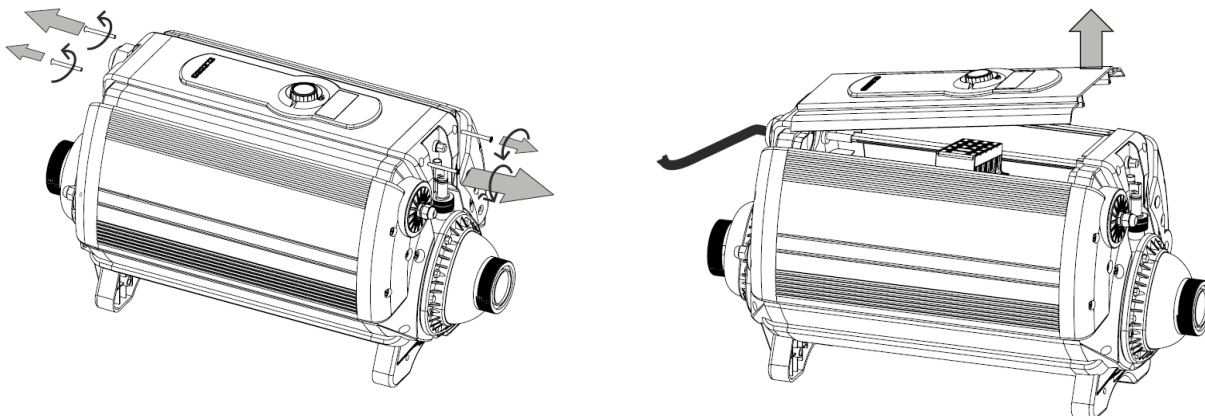

Fig. 4
- To connect the power supply cable, remove access cover (see Fig. 4).